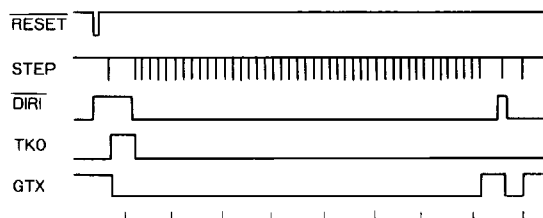

Fig.33
(13) TRACK COUNTER (Table17, Fig.33, 34参照)